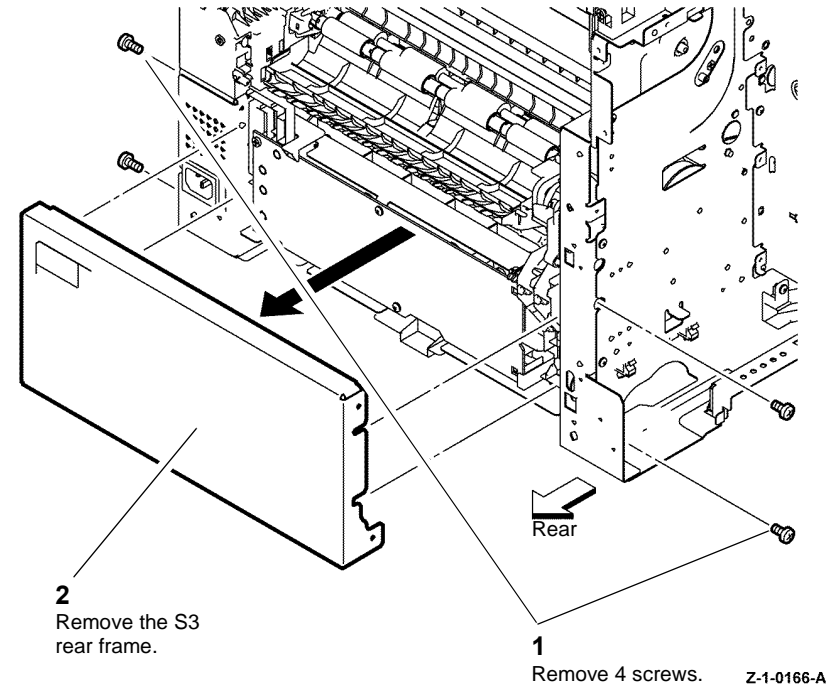

Figure 2 S3 rear frame
7. Remove the S3 rear frame, Figure 2.